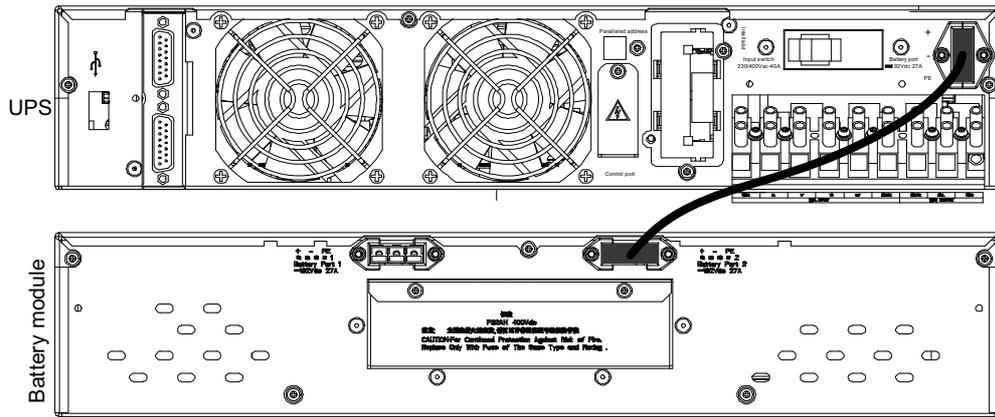

Figure 2-19 Battery cable connection for standard UPS
3. Take out the battery cable A from the UPS accessories, connect the red, black and yellow terminal of one end of the battery cable A to the corresponding terminal of the battery port located on the rear panel of the UPS, and connect the other end of the battery cable A to one of the battery ports of the battery module, as shown in Figure 2-19.